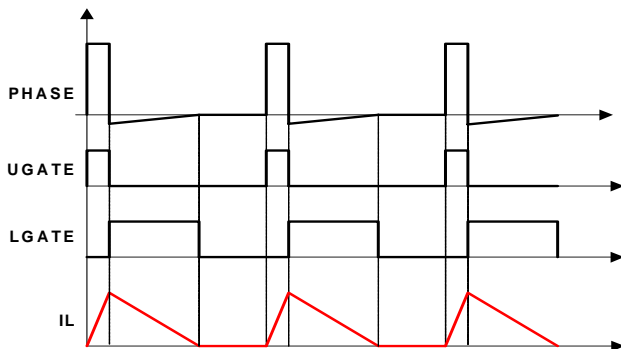

FIGURE 8. DIODE EMULATION
ISL62882 can operate in diode emulation (DE) mode to improve light load efficiency. In DE mode, the low-side MOSFET conducts when the current is flowing from source to drain and does not allow reverse current, emulating a diode. As Figure 8 shows, when LGATE is on, the low-side MOSFET carries current, creating negative voltage on the phase node due to the voltage drop across the ON-resistance. The ISL62882 monitors the current through monitoring the phase node voltage. It turns off LGATE when the phase node voltage reaches zero to prevent the inductor current from reversing the direction and creating unnecessary power loss.
If the load current is light enough, as Figure 8 shows, the inductor current will reach and stay at zero before the next phase node pulse, and the regulator is in discontinuous conduction mode (DCM). If the load